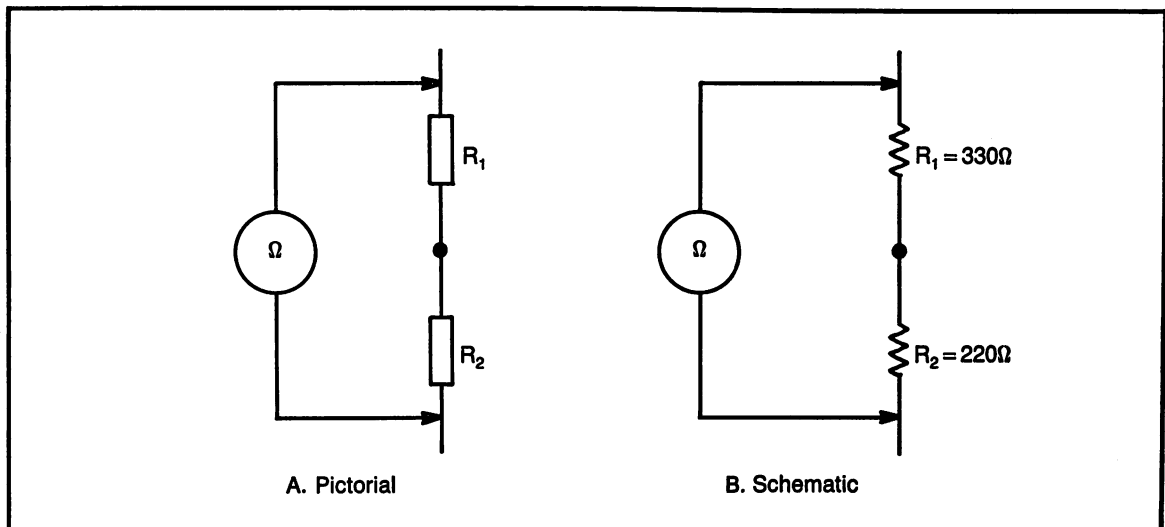

Fig. 9-13. Using an ohmmeter to check total circuit resistance.
- (3) Figure 9-13 shows the two resistors connected in series. First calculate the total resistance, showing the formula used, then measure the